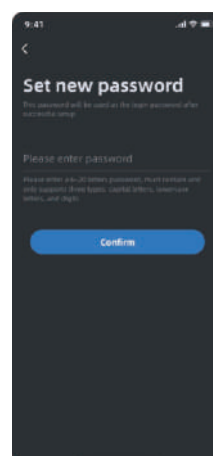

Figure 9
9) Figure 9: Enter the new password that meets the requirements, click **"Confirm"** to complete the modification, and you can use the new password to log in next time.